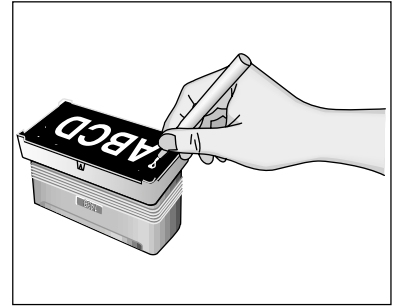

figure 1
- Apply the pen tip to the portion of the stamp surface that you wish to correct (see figure 1).